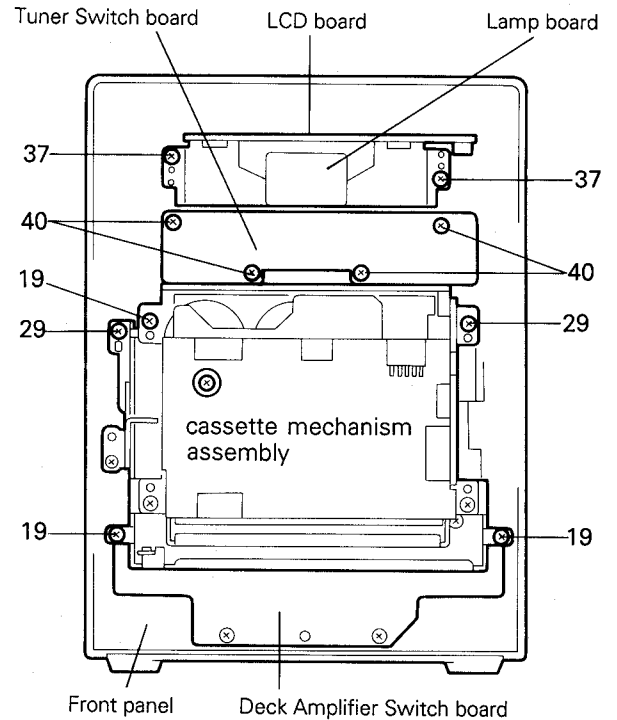

Fig. 7-3
■ LCD board assembly (Fig. 7-3)
■ Tuner/CD Switch board (Fig. 7-3)
1. Remove four screws (40) retaining the Tuner/CD Switch board to the front panel.
■ Cassette mechanism assembly (Fig. 7-3)